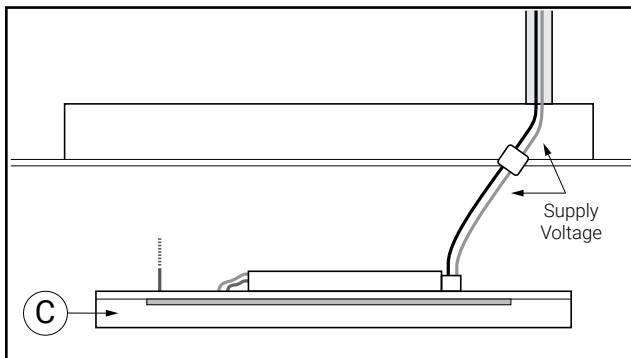

Figure 13.
13. Connect supply voltage conductors to the LED Panel (C). (Fig. 13).